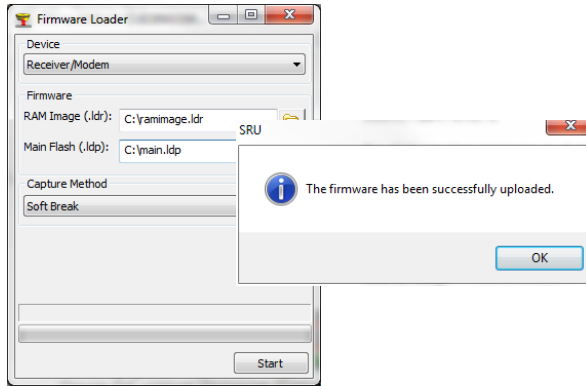

Figure 5-10. Firmware – Successfully Loaded
- Press **OK** to complete uploading new firmware to the receiver (Figure 5-10).